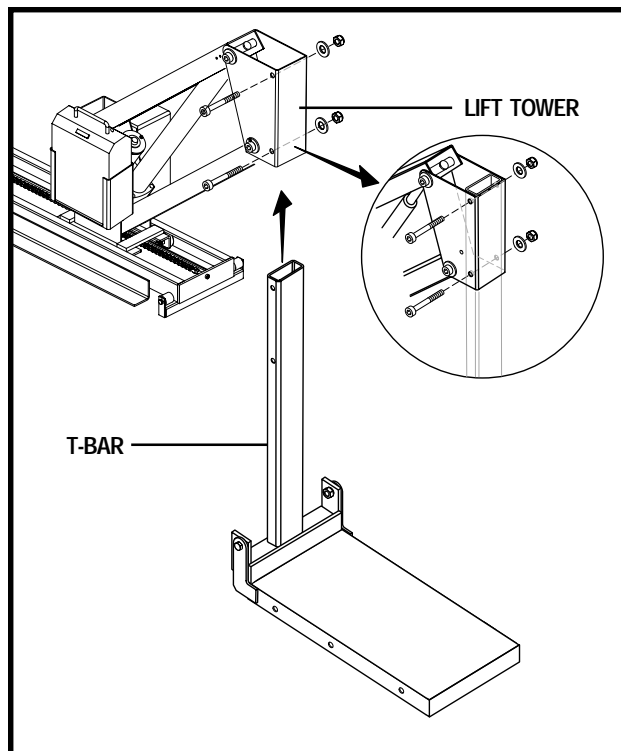

Figure 3. T-Bar Installation
16. Insert the T-Bar into the lift tower and secure into position with the supplied hardware. See figure 3.